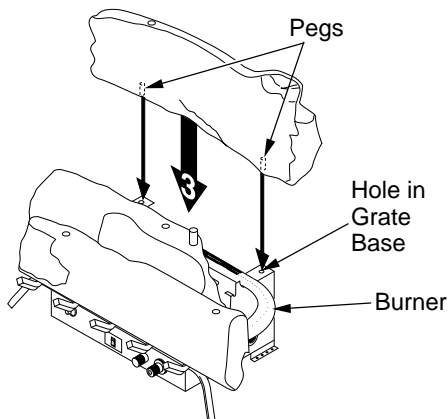

Figure 26 - Installing Rear Log (#3) (CCL3930PR/NR Shown)
3. Locate pegs on the bottom of back log (#3). Slide these pegs into the holes in the grate base behind the burner (see Figure 26).